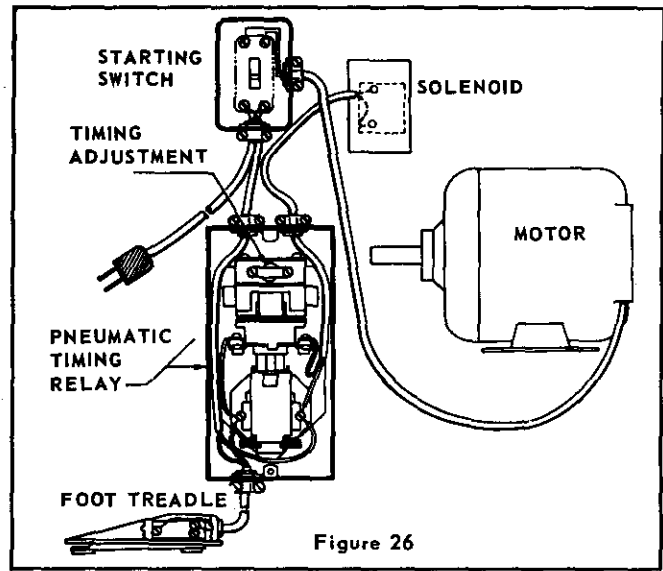

Figure 26
**Non-Repeat Type (Figure 26)**—optional on all Models shown above—allows only one stitch to be driven when pedal is depressed. Additional stitches can be made only by continued releasing and depressing of the pedal. The latest type of non-repeat trip is controlled by a pneumatic timing relay that can be set to deliver stitches one at a time or several at a time up to more than 100 stitches, as long as the treadle is kept depressed. This setting is made by turning the adjusting knob on the timer, which can be seen after removing cover.